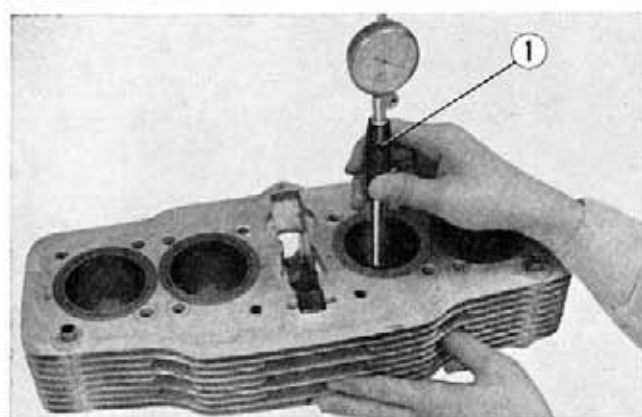

Fig. 3-59 ① Cylinder gauge
② PistonFig. 3-62 ① Piston ring
② Thickness gauge
1. Measuring the cylinder bore, taper and out of round. (Fig. 3-59)